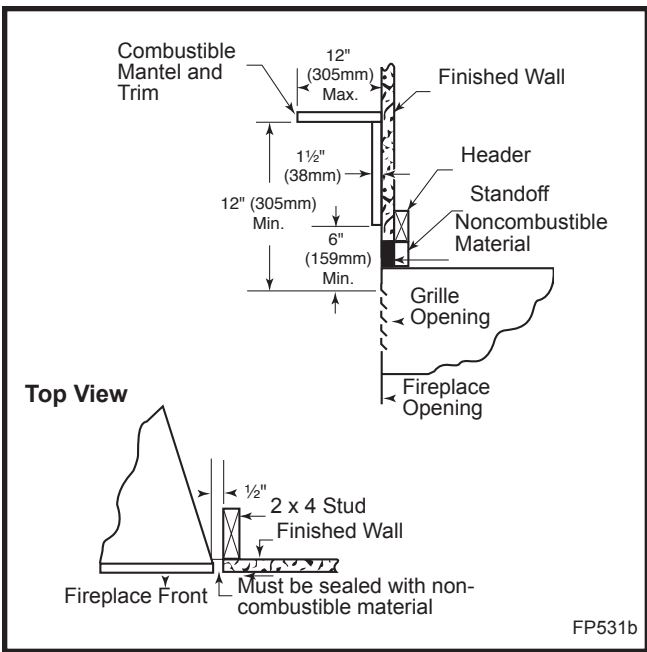

Fig. 21 Mantel clearance.
All joints (top, bottom and sides) where wall or decorative facing material meets fireplace surround must be completely sealed with a noncombustible material. (Figs. 21 and 22)
Secure the hearth extension to the floor to prevent shifting, using trim molding or other similar means at three (3) outer edges. Seal crack between the fireplace hearth and hearth extension with a noncombustible material. (Figs. 21 and 25)